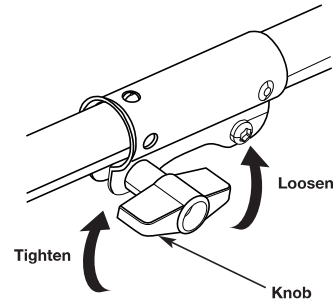

Fig. 4
3. Turn the knob counterclockwise to loosen the coupler (Fig. 4).
2. Turn the knob counterclockwise to loosen the coupler (Fig. 4).